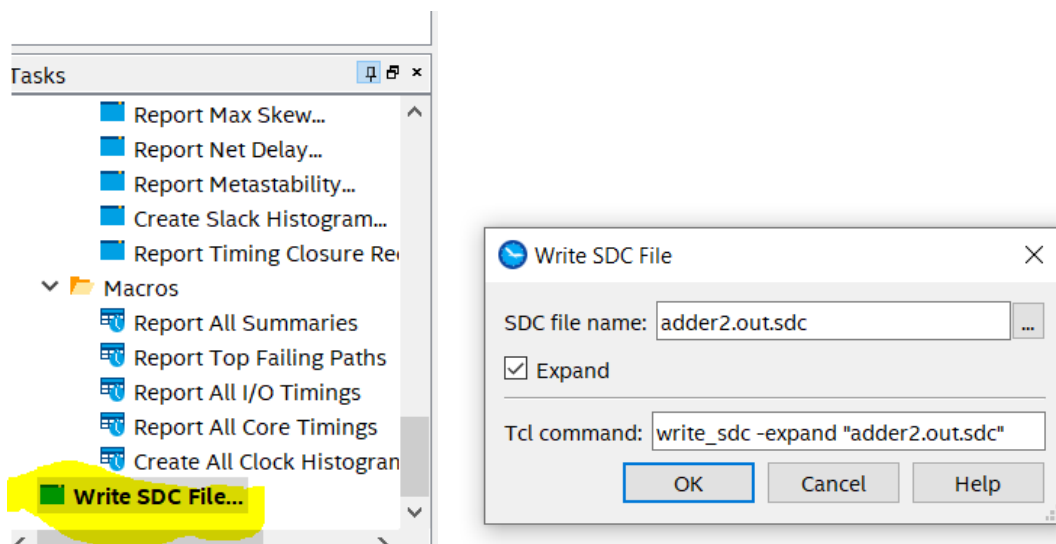

Figure 13
12. Once all the path are constrained. Click “ Write SDC File” in Tasks window (figure 13 left) to save all the constrains into “add2.out.sdc”, which will be saved in the project folder.